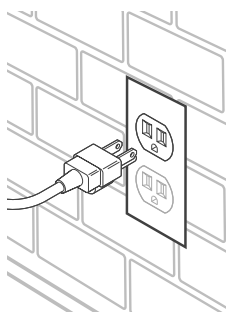

Figure 2.3
8. Plug into a kitchen outlet. [Figure 2.3]